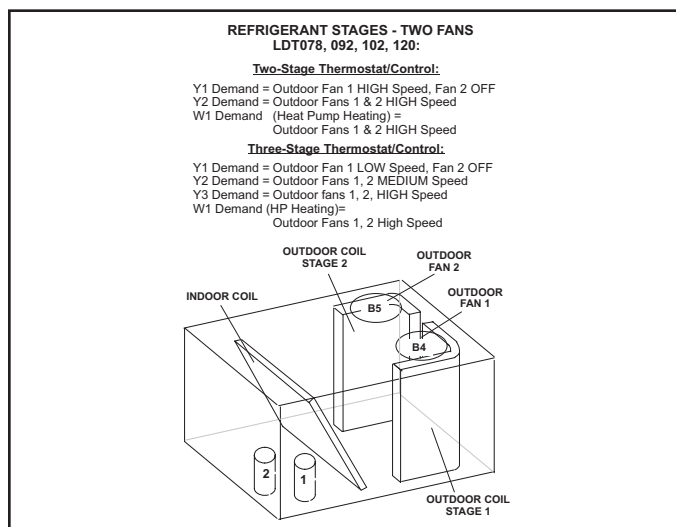
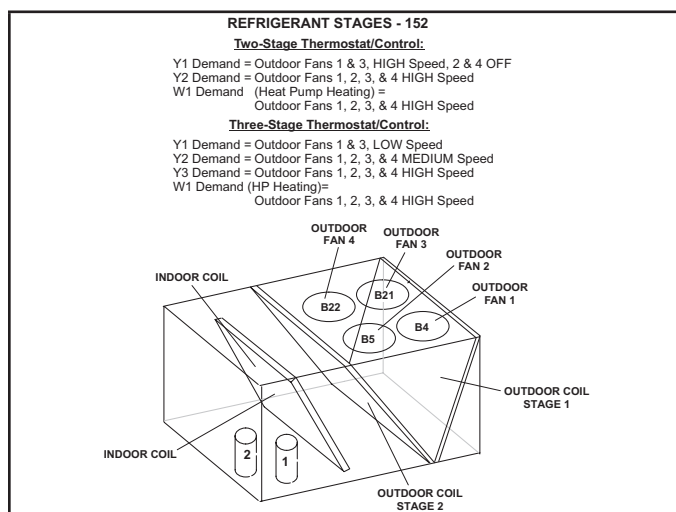

FIGURE 18
FIGURE 19
- 3 - Units have two refrigerant circuits. See FIGURE 18 or FIGURE 19.